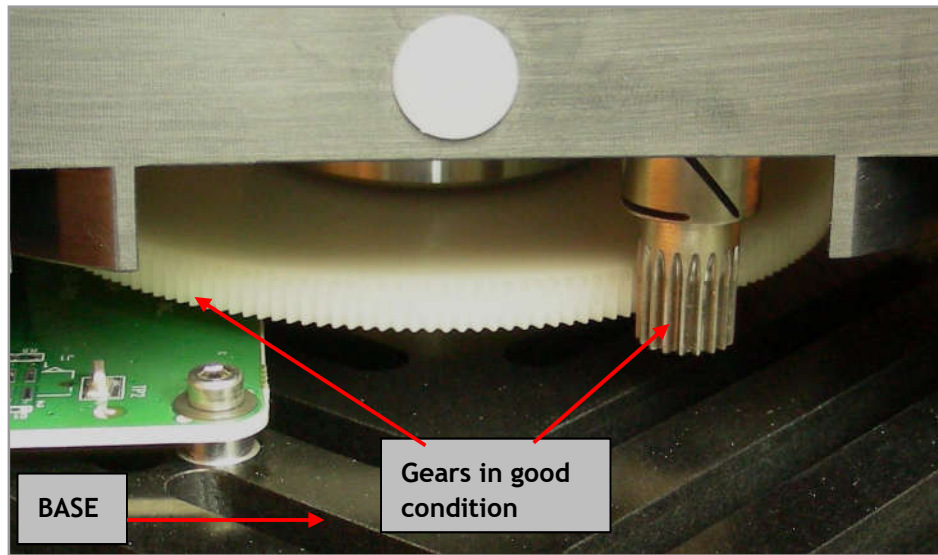

Figure 29 - Steps 3 & 4: Check Spur Gears
- Step 4 Verify both spur gears for wear. The gears are located between the base and the rotating payload (Figure 29). In the event of noticeable wear, please contact FLIR Radars Customer Support for repair instructions.